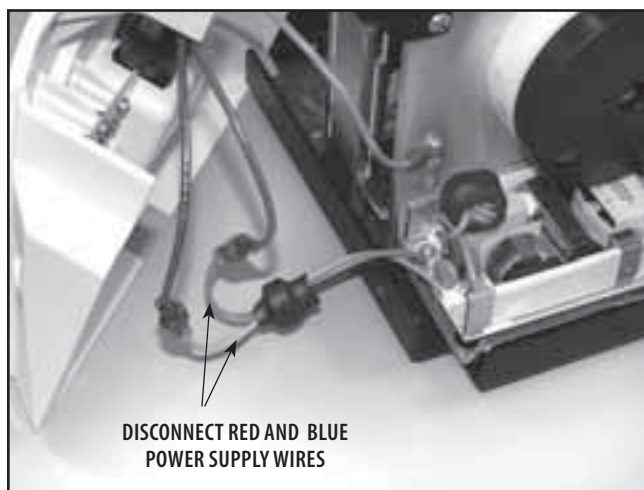

FIGURE 5.4
4. Disconnect the Blue and Red wires from the Power Supply to the Power Switch. See Figure 5.4.